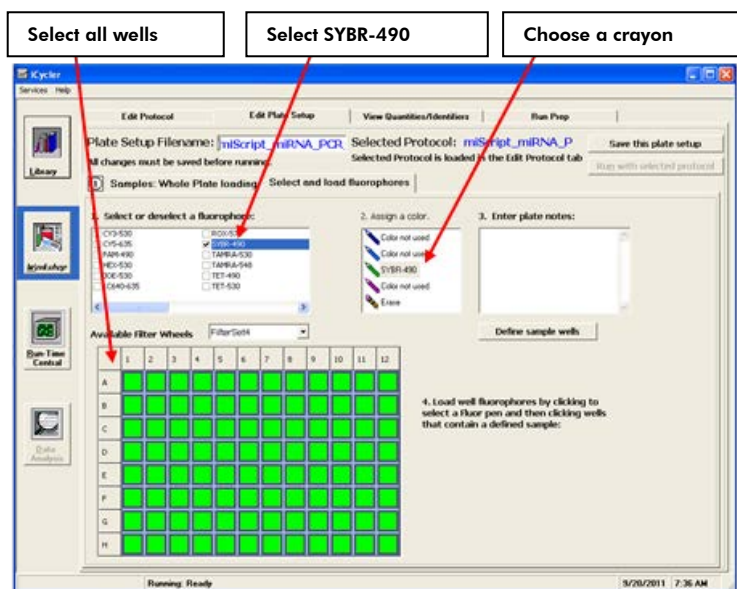

Figure 3. Plate setup (2).
- When finished loading samples, click on “Select and load fluorophores” (see Figure 3). Select “SYBR-490” as the fluorophore by clicking the box next to the fluorophore in the “Select or Deselect a Fluorophore” box. Assign a color for SYBR-490 by clicking on one of the crayons. With the SYBR-490 crayon selected, load fluorophore to all wells by clicking the top left corner of the plate to select all wells at once. Enter “miScript_miRNA_PCR_Array_Plate_Setup_Template” as the new filename in the “Plate Setup Filename” box.